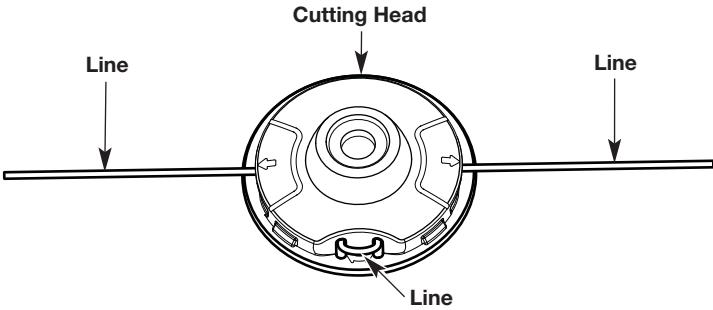

Fig. 13
4. Pull the ends of the line until the line is tight against the cutting head. Make sure the ends of the line are of equal length (Fig. 13). If one end is longer than the other, push the longer end back through the cutting head partway and pull the shorter end out. If necessary, repeat this process until both ends are of equal length.
5. Press the exposed trimming line between the circular holes until it lies flat against the cutting head (Fig. 13).